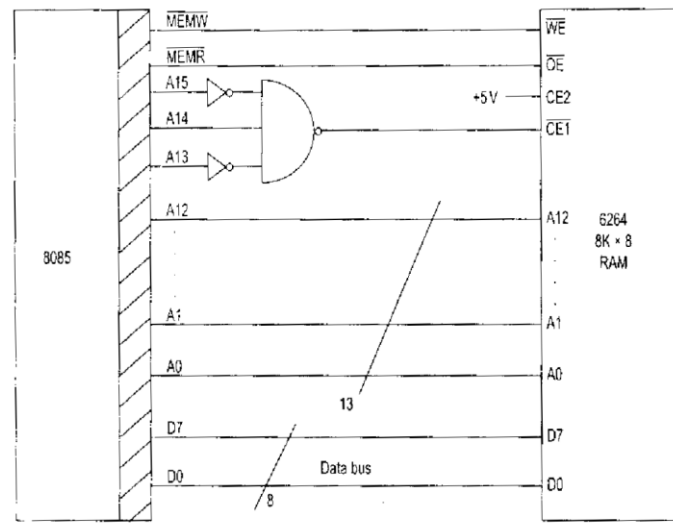

Fig. 3.3 Interfacing 6264 IC with the 8085
- Fig. 3.3 shows the interfacing.